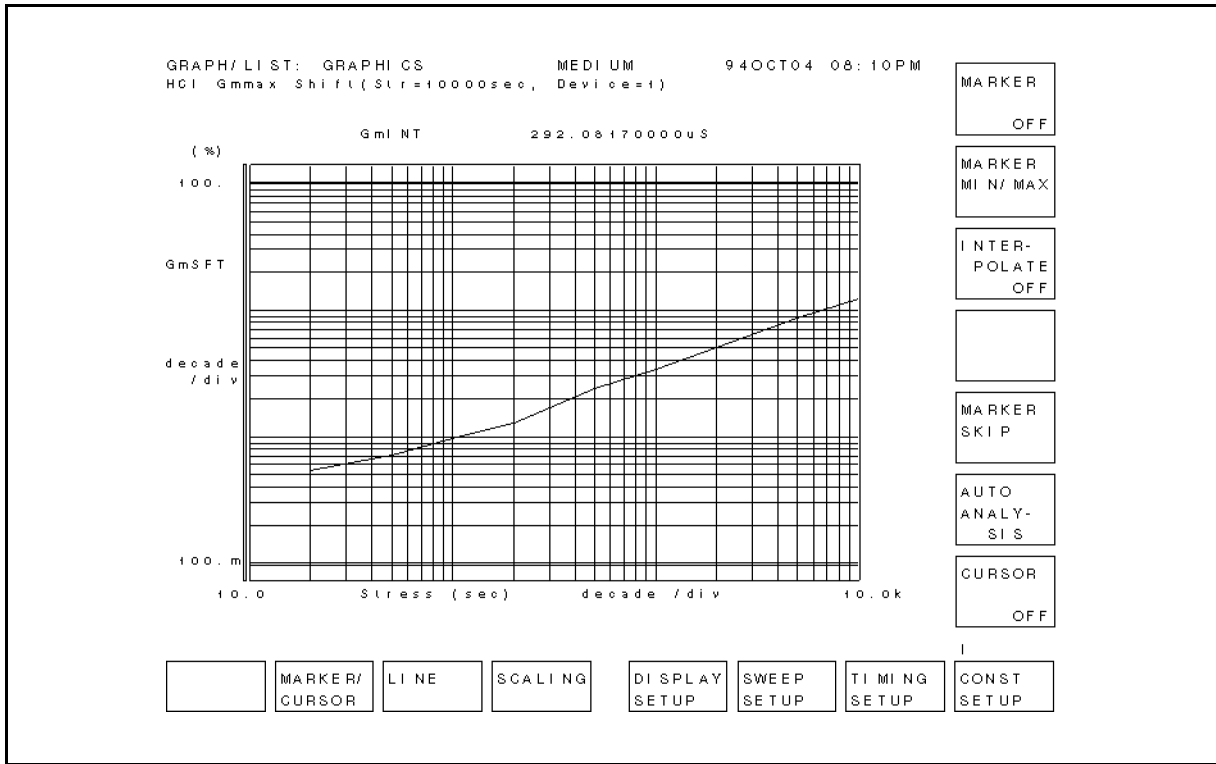

Figure 4-7. HCI Degradation Test Result Example
- After each interim characterization, the fractional change in a parameter versus the stress time is displayed on GRAPHICS page of the HP 4155A/4156A as shown in Figure 4-7.